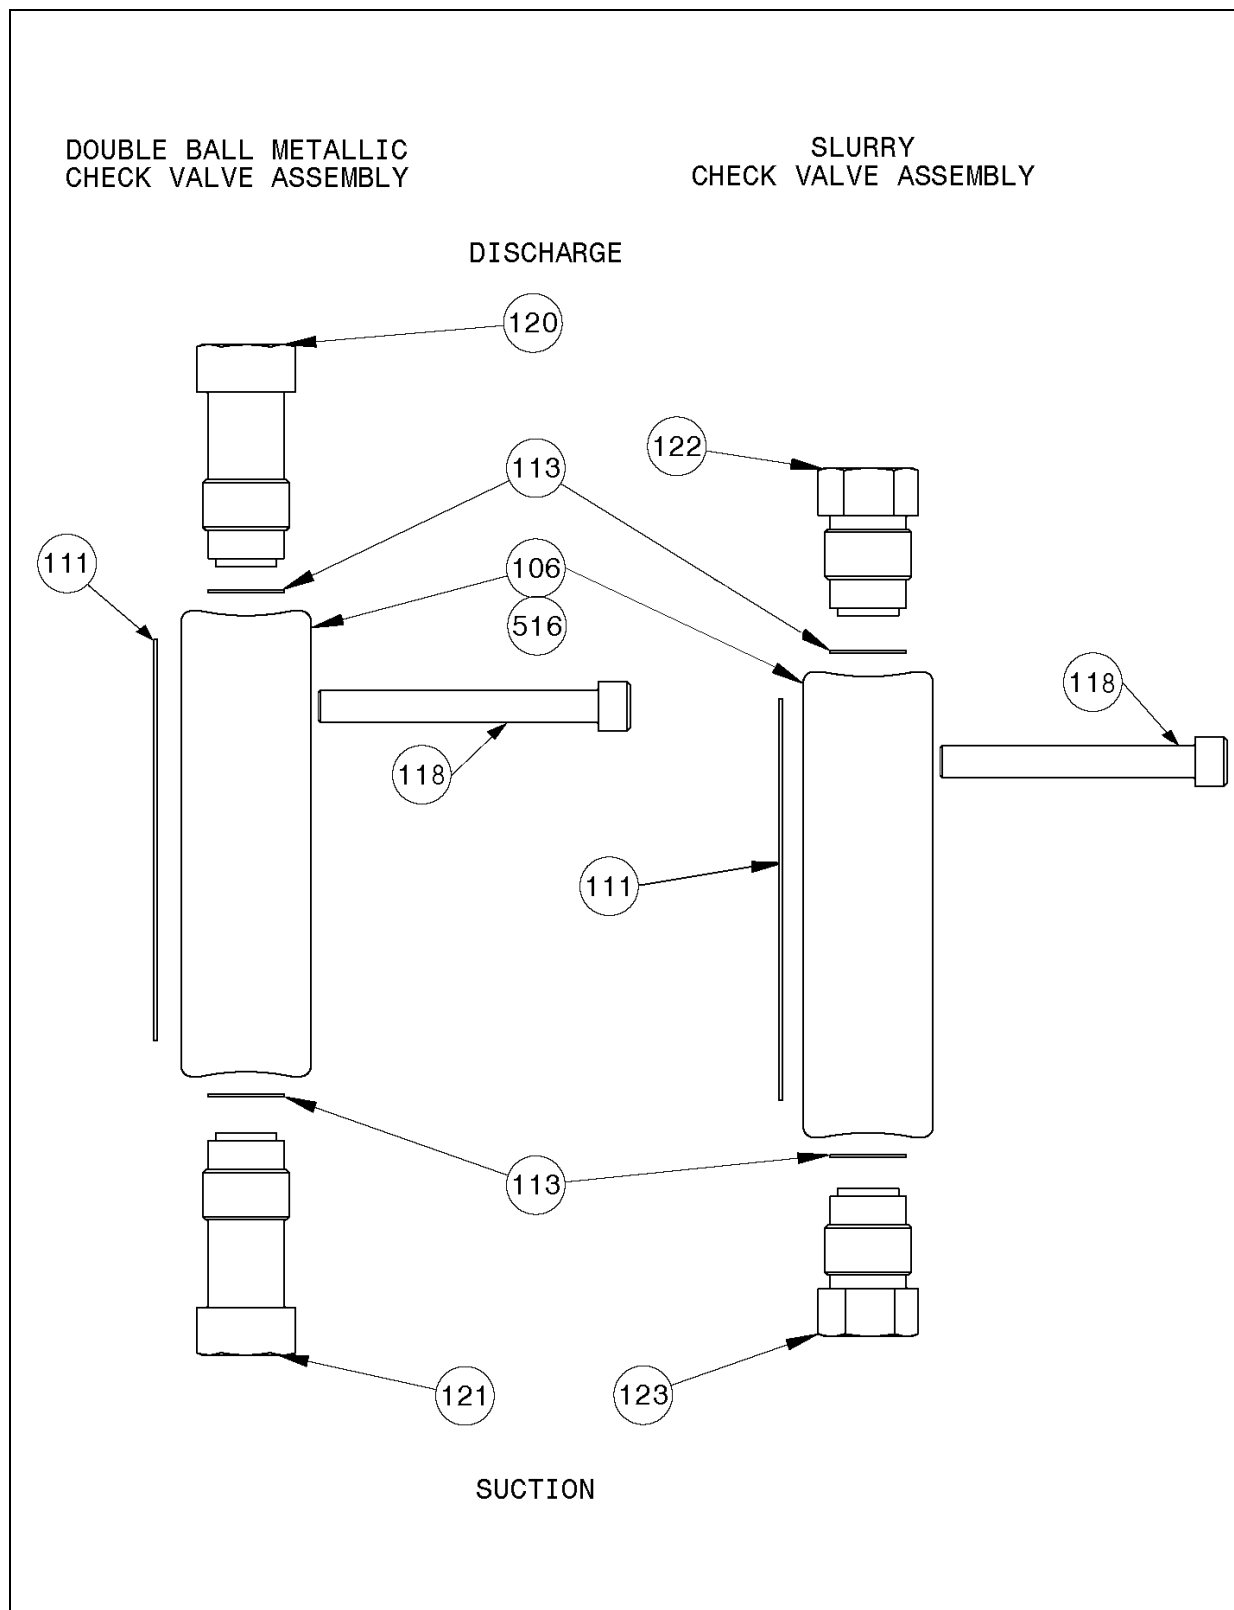

Figure 45. Liquid End Assembly, Size B, Metallic.
(FIGURE 45 & 46)**
6.12 LIQUID END ASSEMBLY, SIZE B (FIGURE 45 & 46)